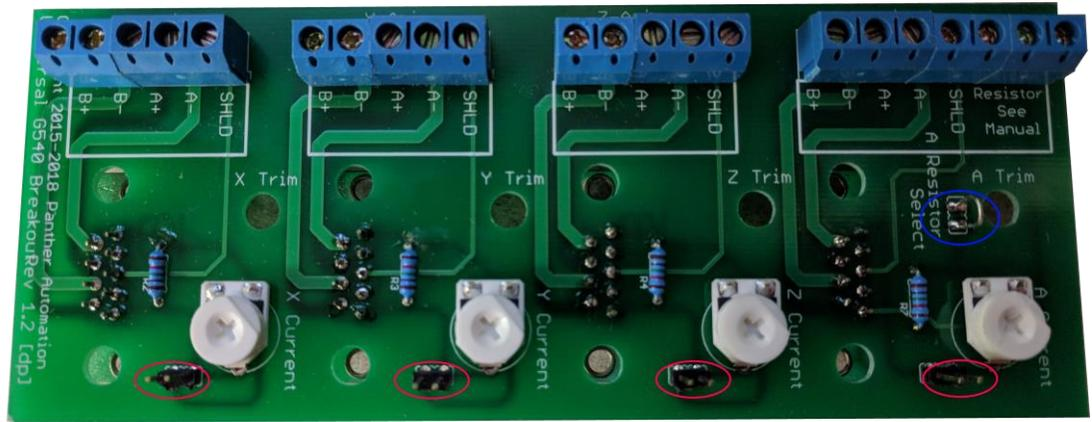

Figure 1: G540 Version 2 Breakout Board
2. Refer to figure 1. Locate the current set test points on the board (circled in red) nearest the channel you are setting.
In this setup, you would place the resistor inside the motors connector just as is documented in the G540 manual. This allows you to put a different resistor on/in each accessory cable or connector so that each accessory gets the correct motor current automatically when it is plugged in. If you want to use this function, you should CUT the jumper labeled "A RESISTOR SELECT" on the board. Referring back to figure 1, it is circled in blue.